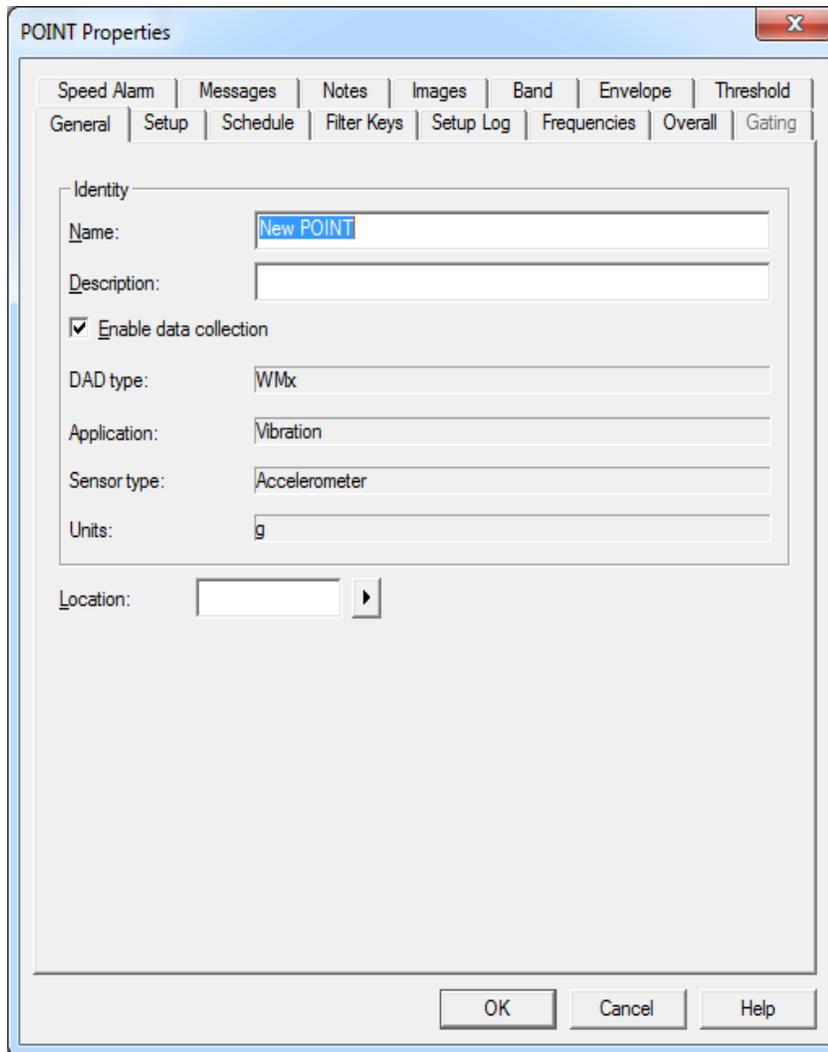

Figure 18. POINT Properties window
3. The POINT Properties dialog will be displayed. [Figure 18] The **General** tab will contain the identity details of the POINT type. Set the **Name** and **Description** as desired.